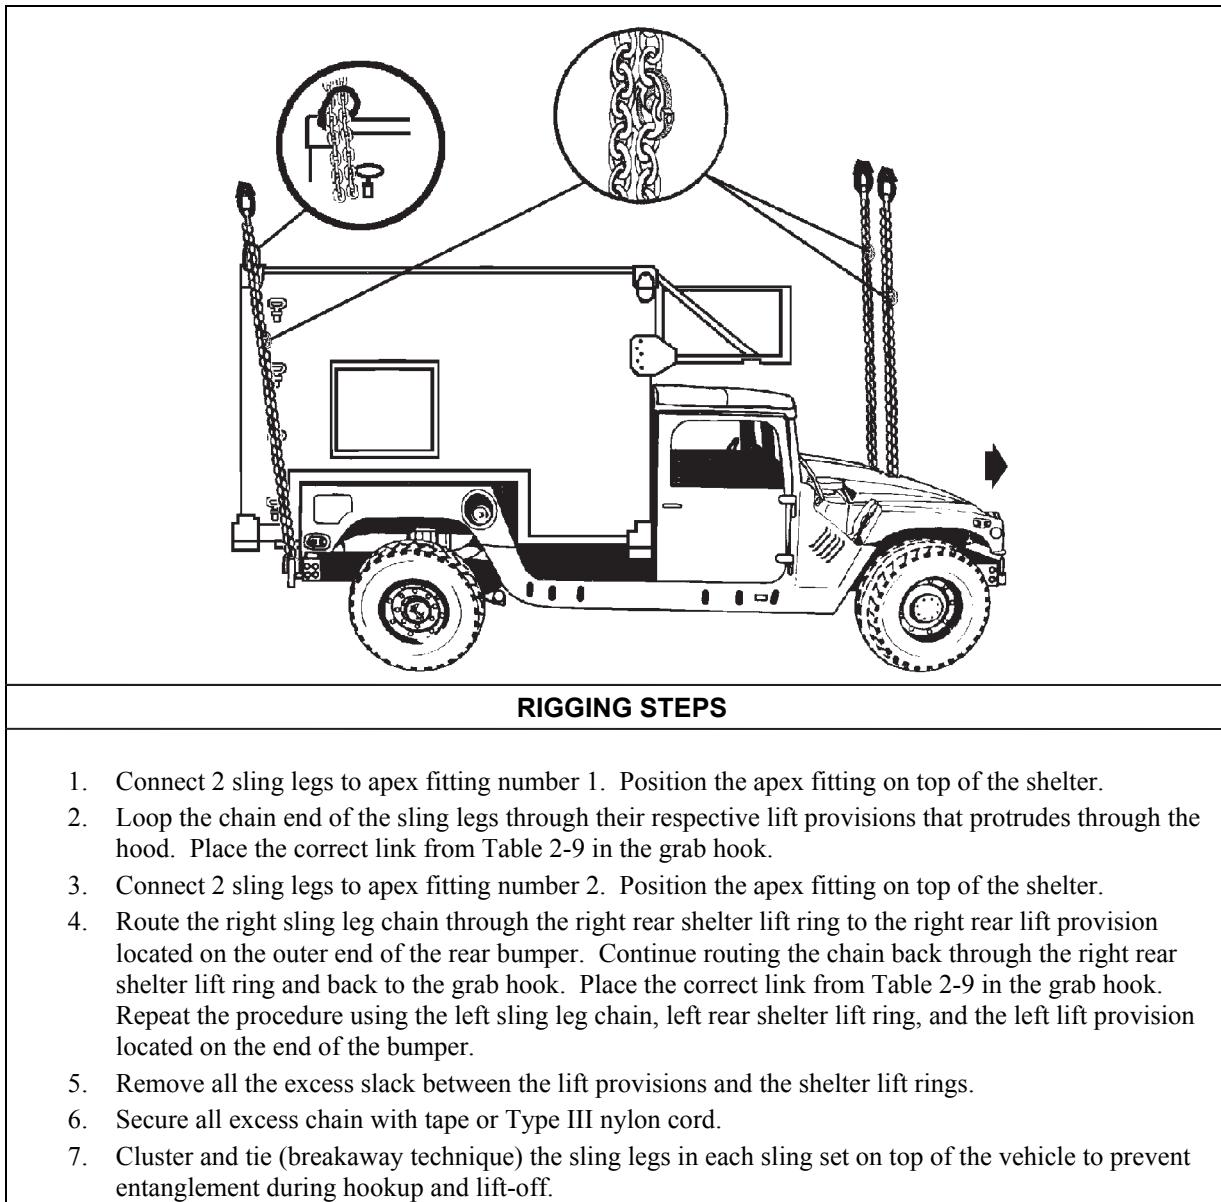

Figure 2-8. LMS Shelter Mounted on M1113 using Shelter Lift Rings as Sling Guides
- **Rigging.** Rig the load according to the steps in Figure 2-8.